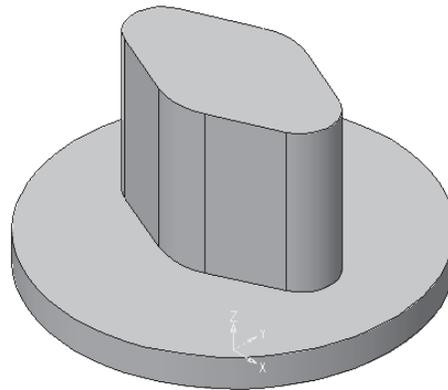

Figure 3-69 Second feature added to the model
3. Set the **Depth** spinner in the **Up** area to **75 mm** and choose **OK**; the model is created, as shown in Figure 3-69.